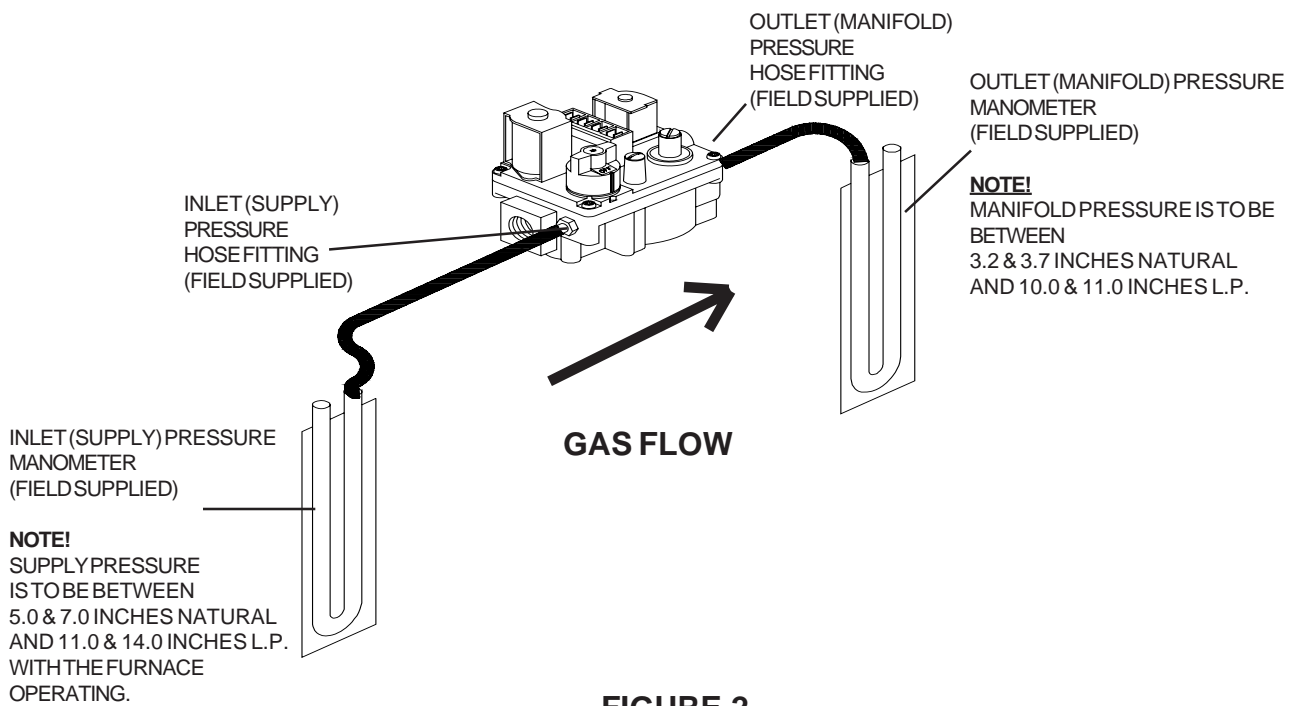

FIGURE 2
10. Connect both the inlet and outlet gas valve barb fittings (installed in step 9) to (2) separate manometers. See figure 2.
15. After the burner is in operation for 15 minutes, check and adjust, if needed, the supply and manifold pressure. See figure 2.